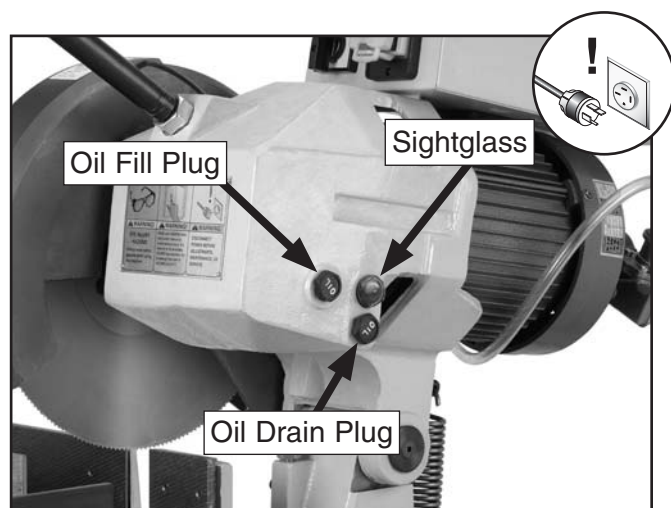

Figure 50. Hinge pin lubrication.
3. Hold the drain pan under the oil drain plug, then remove the oil drain plug (**Figure 50**).